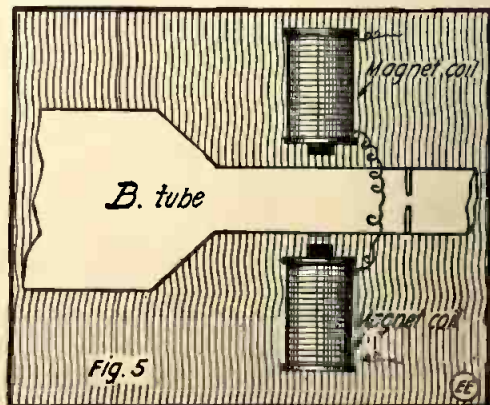

Fig. 5. Magnetic Control for Braun-Tube Ray, sufficient for producing cathodic rays, although they are not very sensitive.
1. *The Form of Vibration.*—There may be one, but better two "indicator coils;" one on the left, the other on the right side of the tube, as shown in Fig. 5. Let us suppose for the sake of simplicity that an alternating current is passed through the